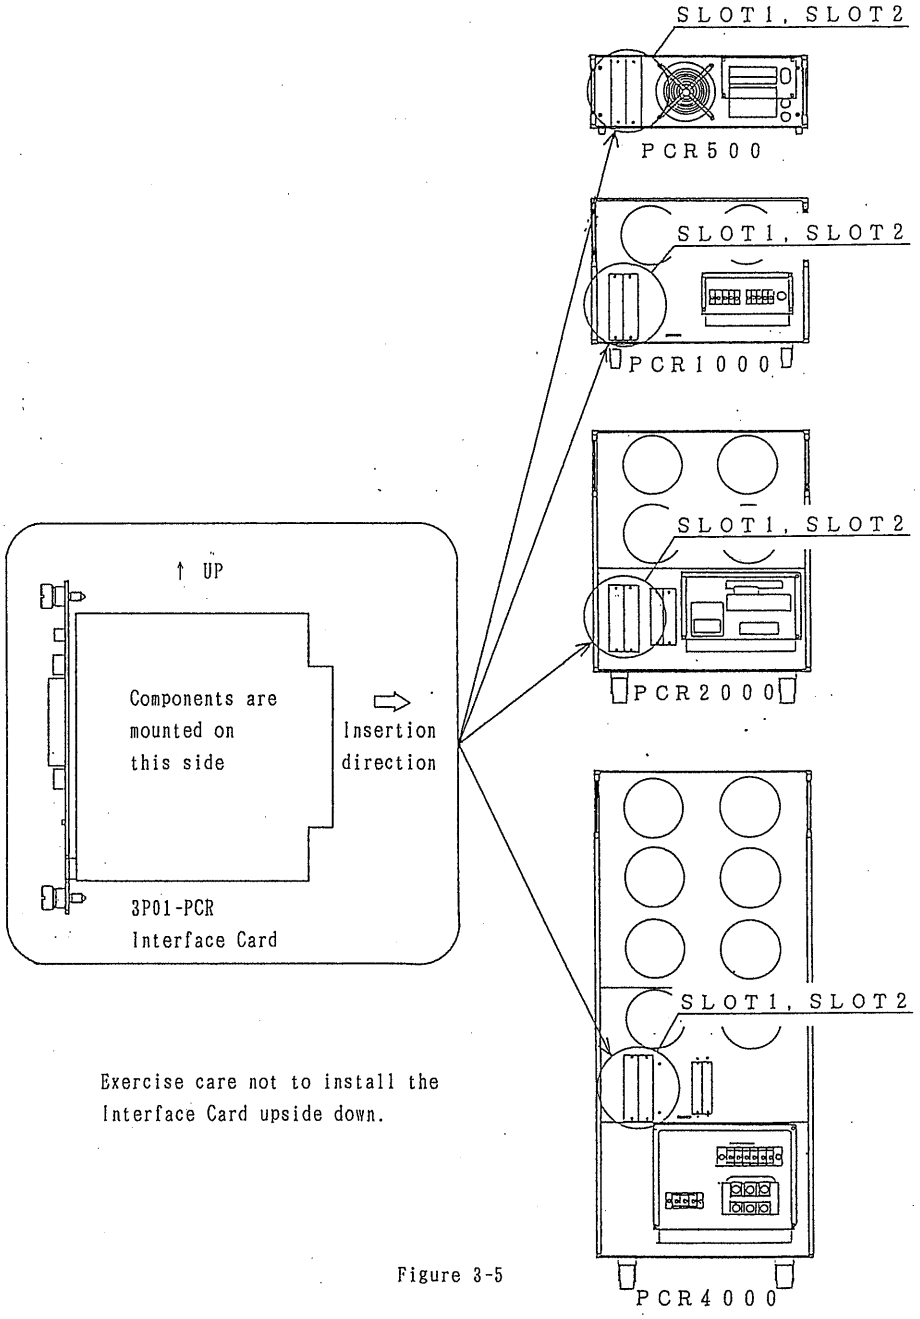

Figure 3-5
- (2) Insert each driver board into SLOT1 or SLOT2 on the rear panel of PCR Series Frequency Converter as shown in Figure 3-5. Fix the screws by a screwdriver tightly.